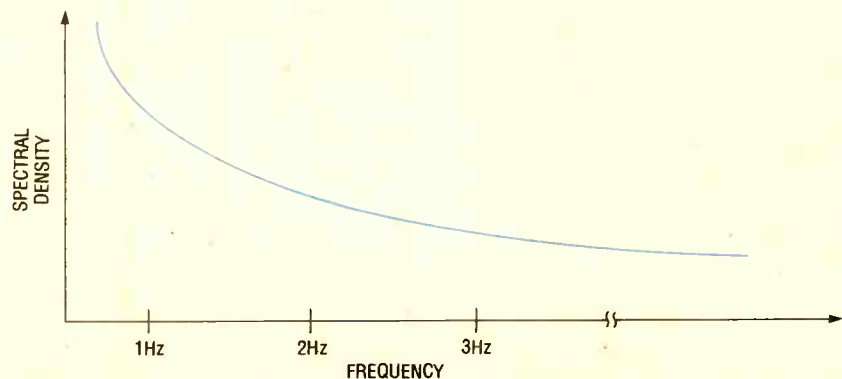

Fig. 3. Unlike white noise, the spectral density of pink noise drops with increasing frequency.
So why is the one-shot circuit needed? Look at Fig. 3 for the answer. There are two cases, but in both the output pulse duration,  $T$ , is the same; only the pulse repetition rate (PRR), or in other words the frequency, is different. Also note that the pulses all have the same amplitude ( $V_{CC}$ ). Thus, the area under each pulse is the same for both graphs:
Fig. 3. The average voltage of a constant-duration, constant-amplitude pulse train varies only with the repetition rate. Shown here are a low PRR (A), and a high PRR (B).
In many cases, spectral density falls off at the rate of  $1/f$ , which means that the spectral density is inversely proportional to frequency. Figure 3 illustrates this idea. In effect the noise is made up of signals whose frequency components have their greatest magnitude at lower frequencies, just like red light. For that reason, noise with a spectrum that falls off as  $1/f$  is called "pink" noise. Pink noise has